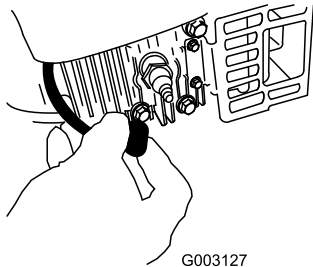

Figure 44
2. Disconnect the spark plug wire from the spark plug (Figure 44) before performing any maintenance procedure.